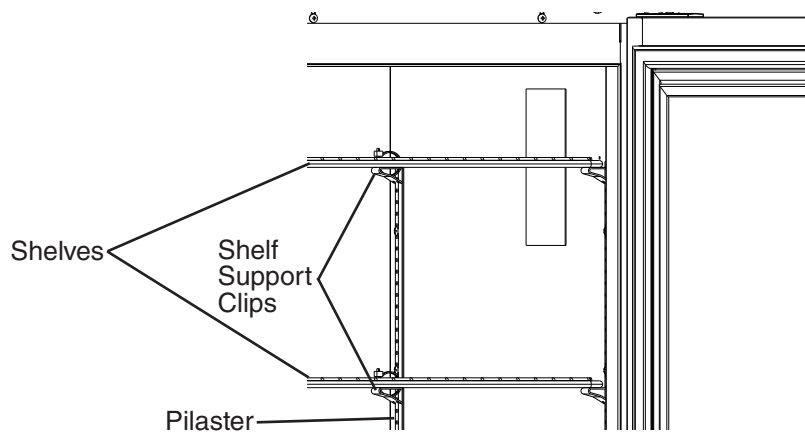

Fig. 4
- 1) For each shelf, place the shelf support clips into the pilasters at the desired height (4 shelf support clips per shelf). See Fig. 4.